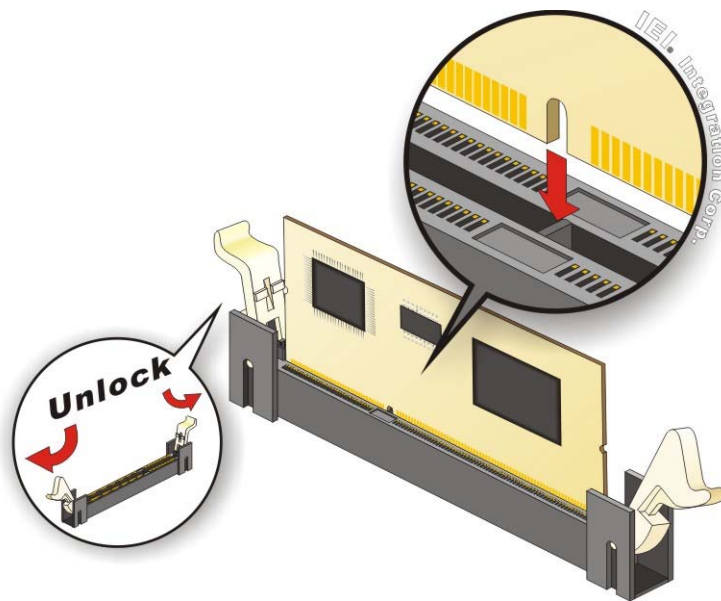

Figure 4-8: iRIS-2400 Module Installation
To install the iRIS-2400 module, please follow the steps below and refer to **Figure 4-8**.
- Step 2:** Open the socket handles. Open the two handles outwards as far as they can. See **Figure 4-8**.
- Step 3:** Align the iRIS-2400 module with the socket. Align the iRIS-2400 module so the notch on the module lines up with the notch on the socket. See **Figure 4-8**.
- Step 4:** Insert the iRIS-2400 module. Once aligned, press down until the iRIS-2400 module is properly seated. Clip the two handles into place. See **Figure 4-8**.